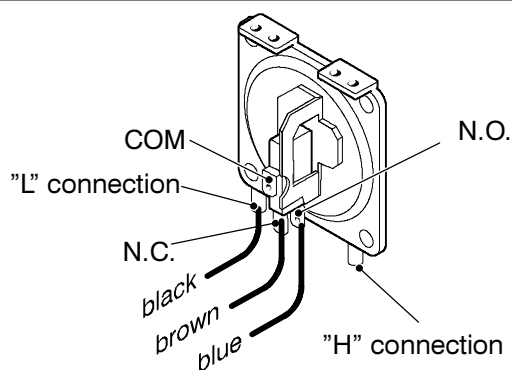
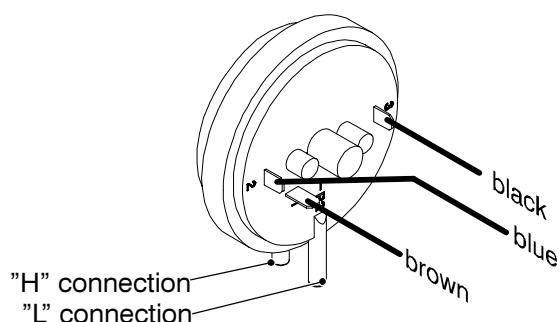
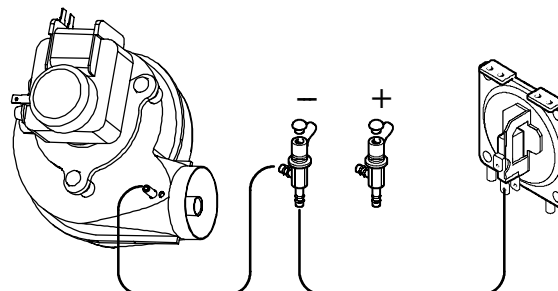

Fig. 69a
Fig. 69b
Fig. 72
Refer to the Fig. 69a or b in accordance with the type of air pressure switch used.
**Warning:** to correctly connect the venturi device to the Air pressure switch, refer to Fig. 72.
**Warning: to correctly connect the Air pressure switch, refer to Fig. 72 and Fig. 69a or Fig. 69b for the correct wiring.**